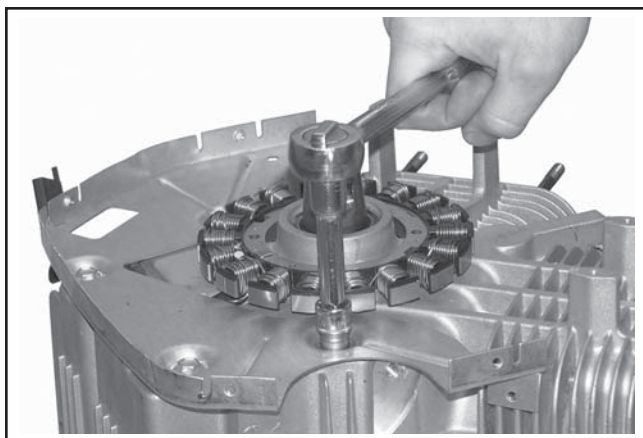

**Figure 8-59. Removing Flywheel with a Puller.**
4. Use a puller to remove the flywheel from the crankshaft. See Figure 8-59.